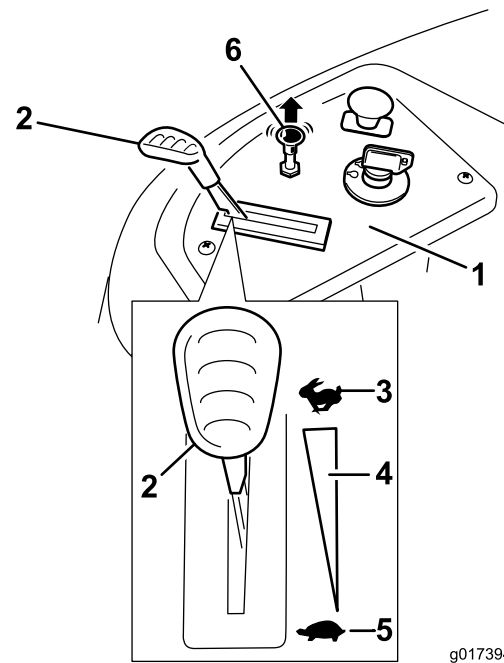

Figure 12
3. Pull up on the Choke control before starting a cold engine (Figure 12).